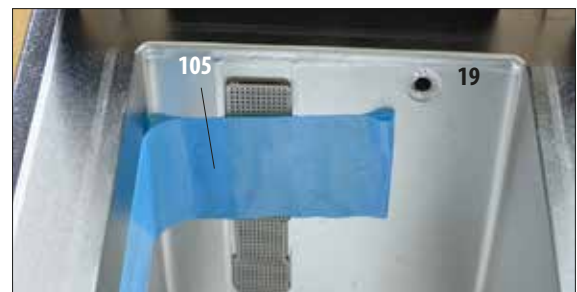

Fig. 19
- In the retort, you also have to remove the strip of adhesive tape (105) that secures the cover of the level sensors (Fig. 19).